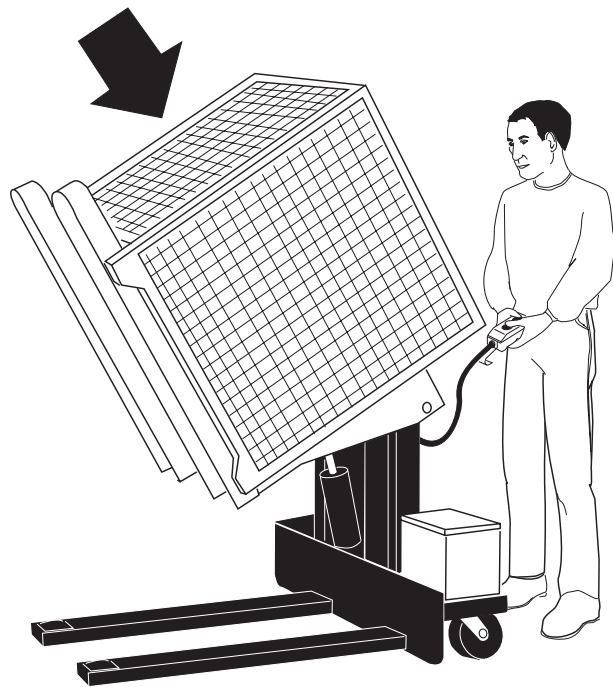
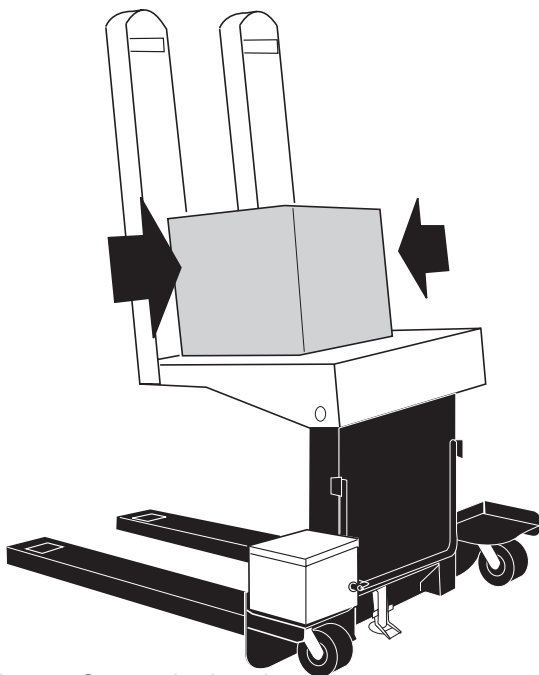

Fig. 3b Before lifting make sure the container is pushed up against the tilt platform.
Fig. 5 Center the Load
3. The load should be balanced in the side-to-side direction. Whenever possible, place the load in the center of the tilting platform, as shown in Fig. 5. If the load is off-center on the pallet, place the heaviest part of the load near the back of the tilt platform – never near the front!
3. Before lifting, be sure the parts container is pushed up against the tilt platform, as shown in Fig. 3b. Be sure the load is balanced side-to-side, as shown in Fig. 5.